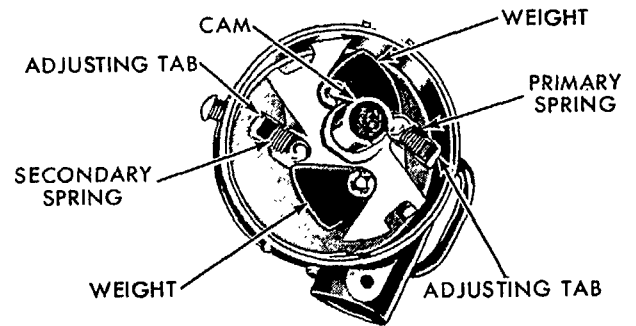

Figure 62
1. Align the primary spring adjustment tab with the hole in the upper breaker plate, and bend the tab in the required direction with a screwdriver. Bend the primary spring adjustment tab, Figure 62, away from the distributor shaft to decrease the advance, and toward the shaft to increase the advance.
3. Check the maximum advance point. If the maximum advance point is not within limits, bend the secondary spring adjustment tab as required, Figure 62, in the same manner as for the primary spring adjustment in Step 1. If necessary, install a new secondary spring and readjust the spring tab as required.
11. Remove the cam assembly, Figure 62.